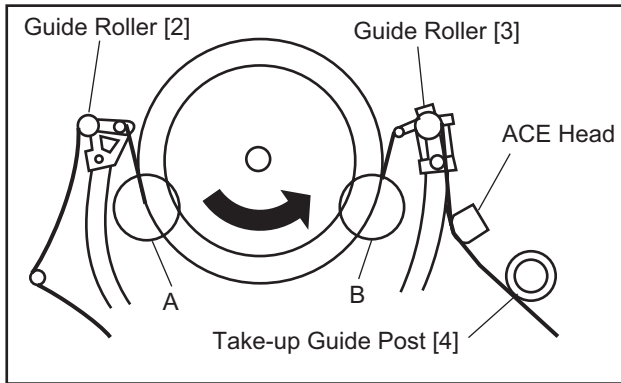

Fig.3
- (1) Playback a blank cassette tape and check to see that the tape runs without creasing at Guide Rollers [2] and [3], and at points A and B on the lead surface. (Refer to Fig. 3 and 4.)
- (2) If creasing is apparent, align the height of the guide rollers by turning the top of Guide Rollers [2] and [3] with a Guide Roller Adj. Screwdriver. (Refer to Fig. 3 and 5.)
- (3) Check to see that the tape runs without creasing at Take-up Guide Post [4] or without snaking between Guide Roller [3] and ACE Head. (Fig. 3 and 5)